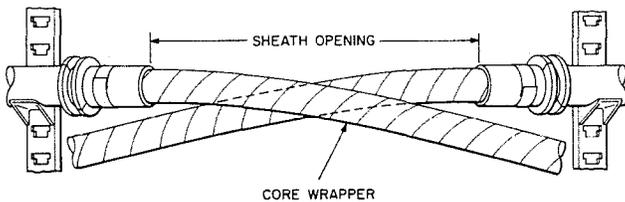

Fig. 11—Sheath Removed From Cable
3.07 Remove polyethylene jacket between inner tape markers. Then remove underlying metal shield (Fig. 11). *The sharp edges of the metal shield must be handled carefully to avoid injury.*